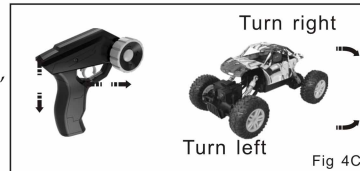

Fig 4C
2. Turn Left/Right: To push the Trigger forward/backward, and Control Wheel turns left/right, the truck would turn left/right. (Fig 4C)